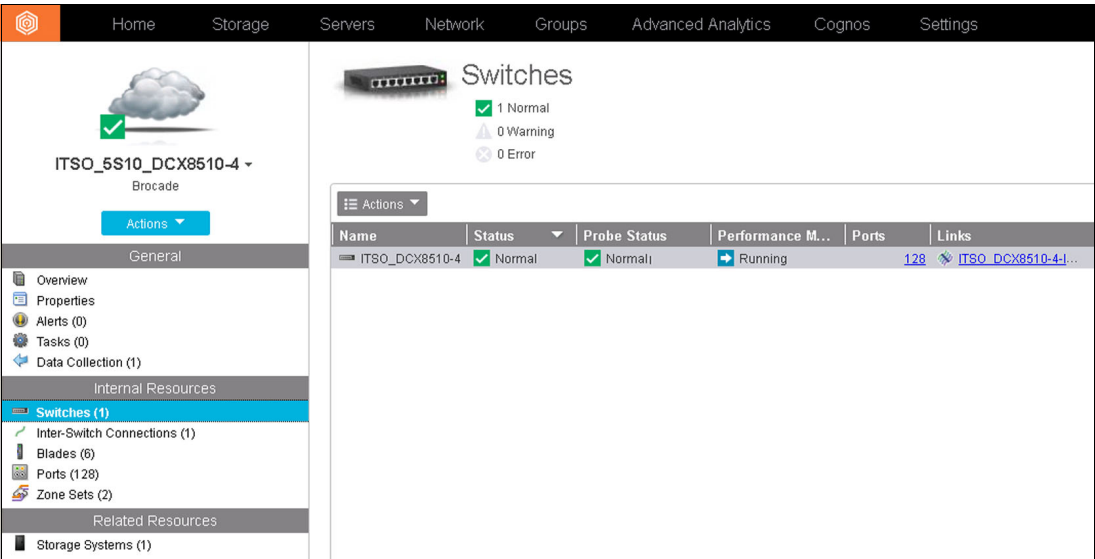

Figure 6-32 Internal resources - Switches section
- Switches: To view information about the switches in the fabric, click **Switches**. The Switches section is displayed as shown in Figure 6-32. The number in parentheses shows the number of switches in the fabric.